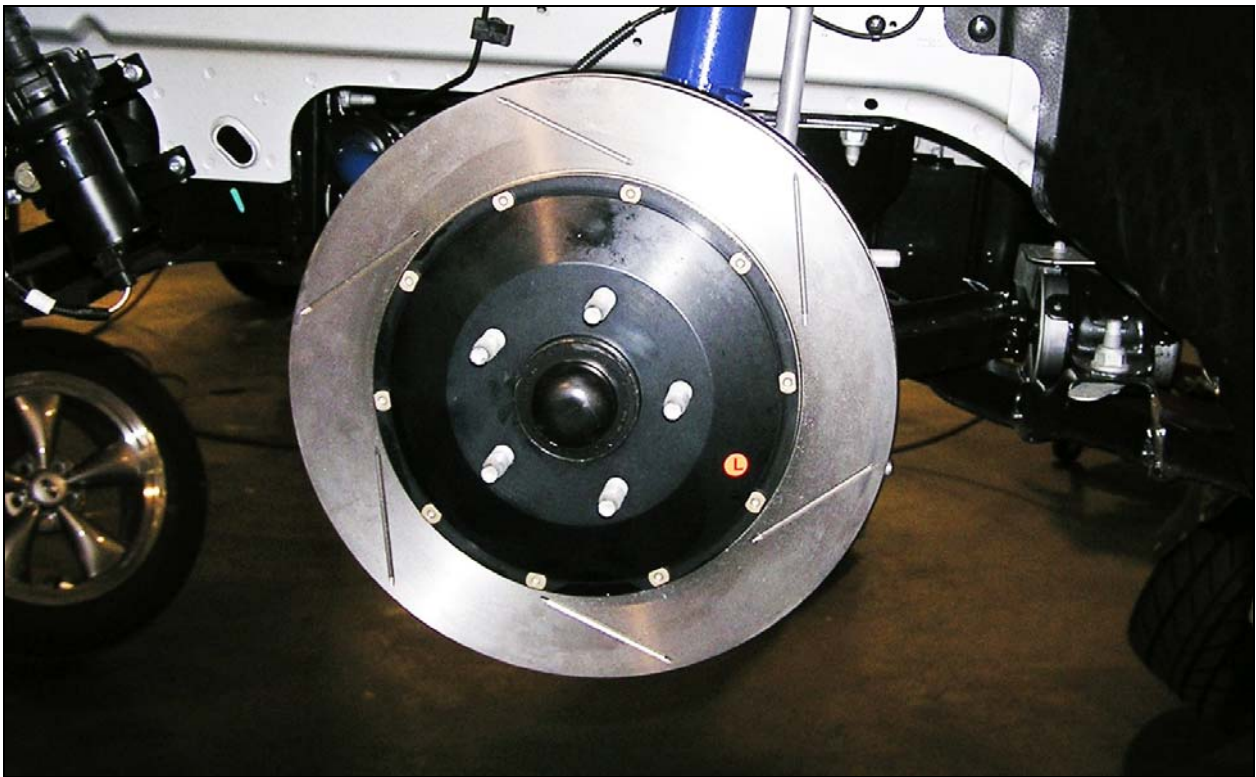

Figure 11
1. Slide the Rotor over the wheel studs and onto the hub. Refer to Figure 11.